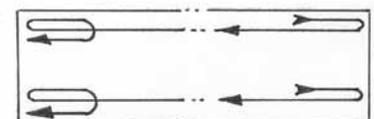

Figure 27
- E. Repeat with a second seam along the other edge of the tape, starting again from the top, as shown in **Figure 27**.